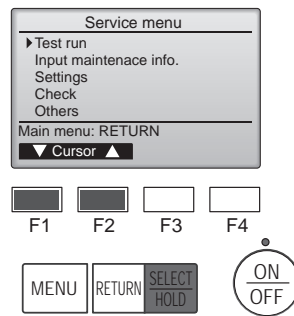

Fig. 7-4
- ③ Select "Test run" with the [F1] or [F2] button, and press the [SELECT/HOLD] button. (Fig. 7-4)